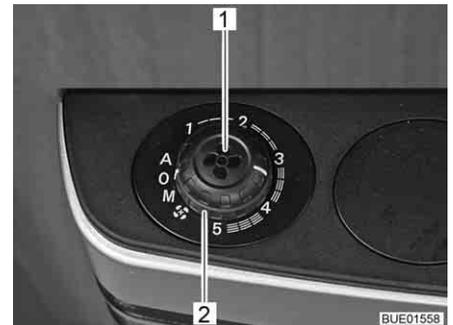

Fig. 141 Knob and rotary switch for fan control
- Set the rotary switch (Fig. 141,2) to the required operating mode.
- Turn the rotary switch (Fig. 141,2) to "0".